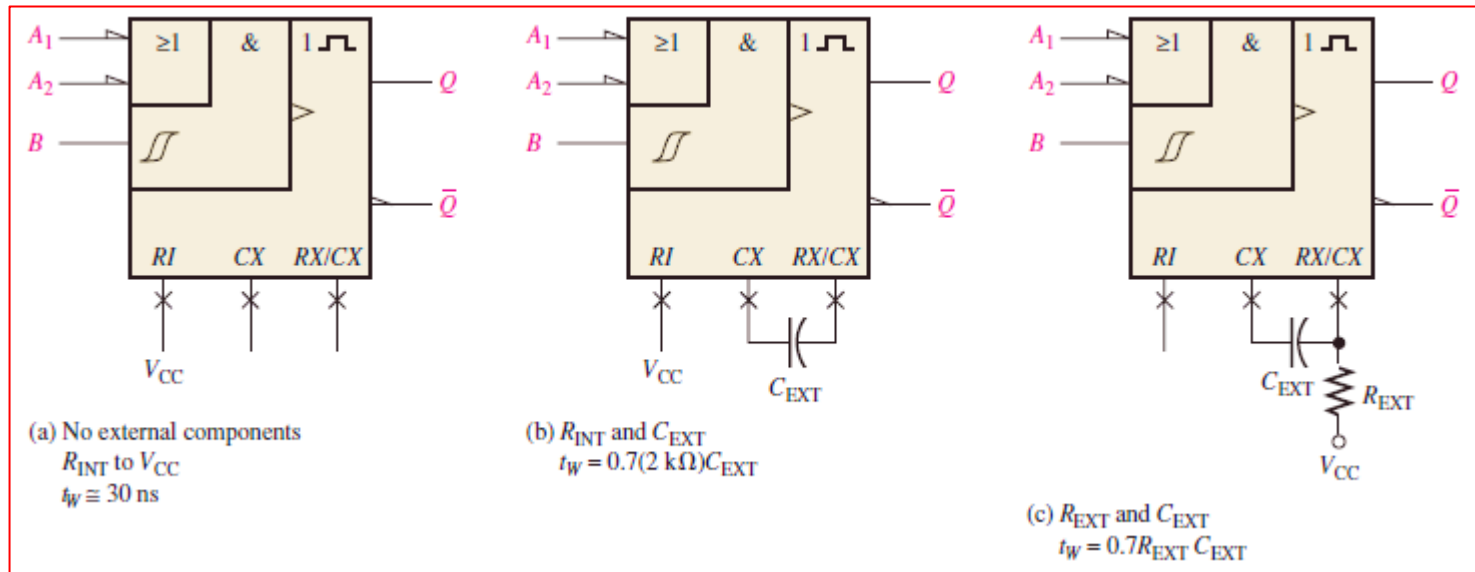

FIGURE 48 Three ways to set the pulse width of a 74121.
- A typical pulse width of about 30 ns is produced when no external timing components are used and the internal timing resistor (R_{INT}) is connected to VCC, as shown in Figure 48(a).
- Figure 48(b) shows the configuration using the internal resistor (2 kΩ) and an external capacitor.